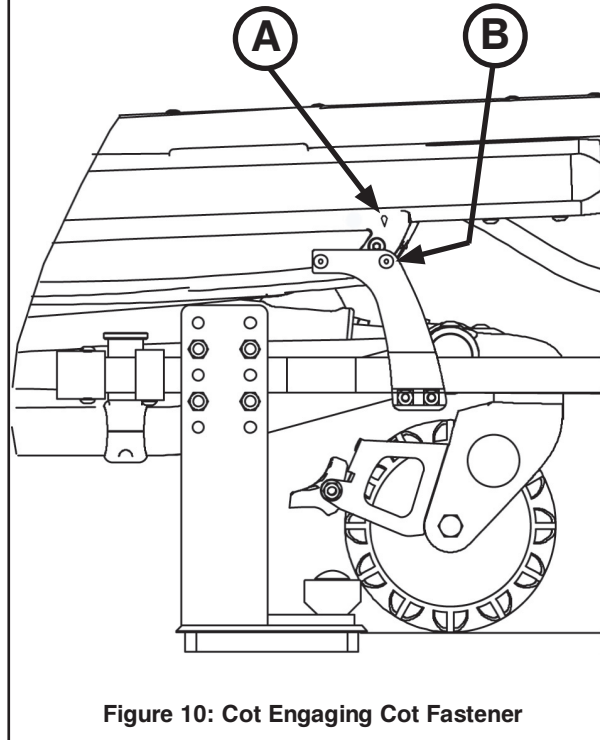

Figure 10: Cot Engaging Cot Fastener
6. Adjust the shut-off bracket along the rail clamp until the “diamond” (A) on the sensor housing is lined up with the pop rivet head (B) as shown in Figure 10.
**Note:** Align the ‘diamond’ (A) on the sensor housing cover with the pop rivet head (B) on the in-ambulance shut-off.